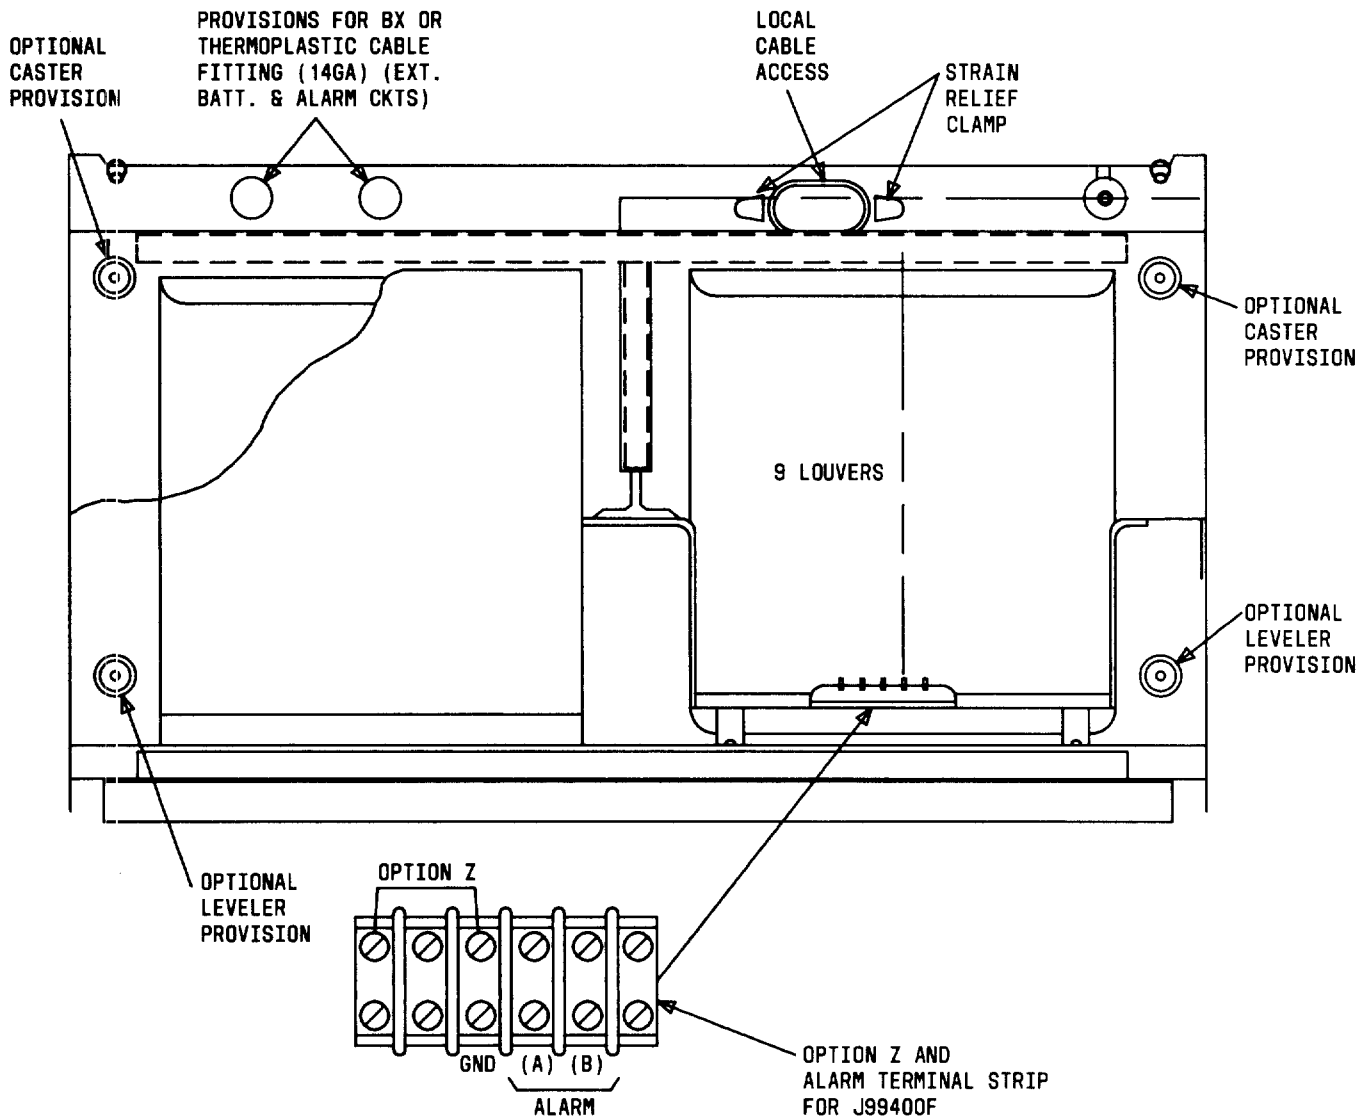

Fig. 2—Bottom View of J99400F Showing Cable Access Holes and TB5
**2.07** In the event of the loss of the 117 Vac input or the tripping of the ac input circuit breaker, the 292A will transfer to an internal -48 volt battery and disconnect the battery charger. There is also a provision for an optional alarm circuit. One of the two access holes located at the battery rear, left-hand side of the housing is used for connection to the alarm circuit. The access holes are shown in Fig. 2. The cabling for this function is to be 14-gauge BX or thermoplastic cable. This cable connects to the terminal strip (TB5) as marked. The terminal strip is shown in Fig. 2.
**3.03** Cabling to the J99400F housing is made to the 94-type connectors (TS1 through TS4) through the oblong opening at the right rear of the housing as shown in Fig. 2. Typically, cabling from the network interface is routed to the connectors labeled TS1 and TS2 (A-side) and connected according to circuit and function as indicated on the decals beside the connectors and on the inside of the front panel. The cabling to the central office is typically connected to connectors TS3 and TS4 (B-side). Figure 5 shows the lead plan for the 94-type connector block. The 94-type connector can accommodate wire sizes of 22, 24, and 26 gauge.